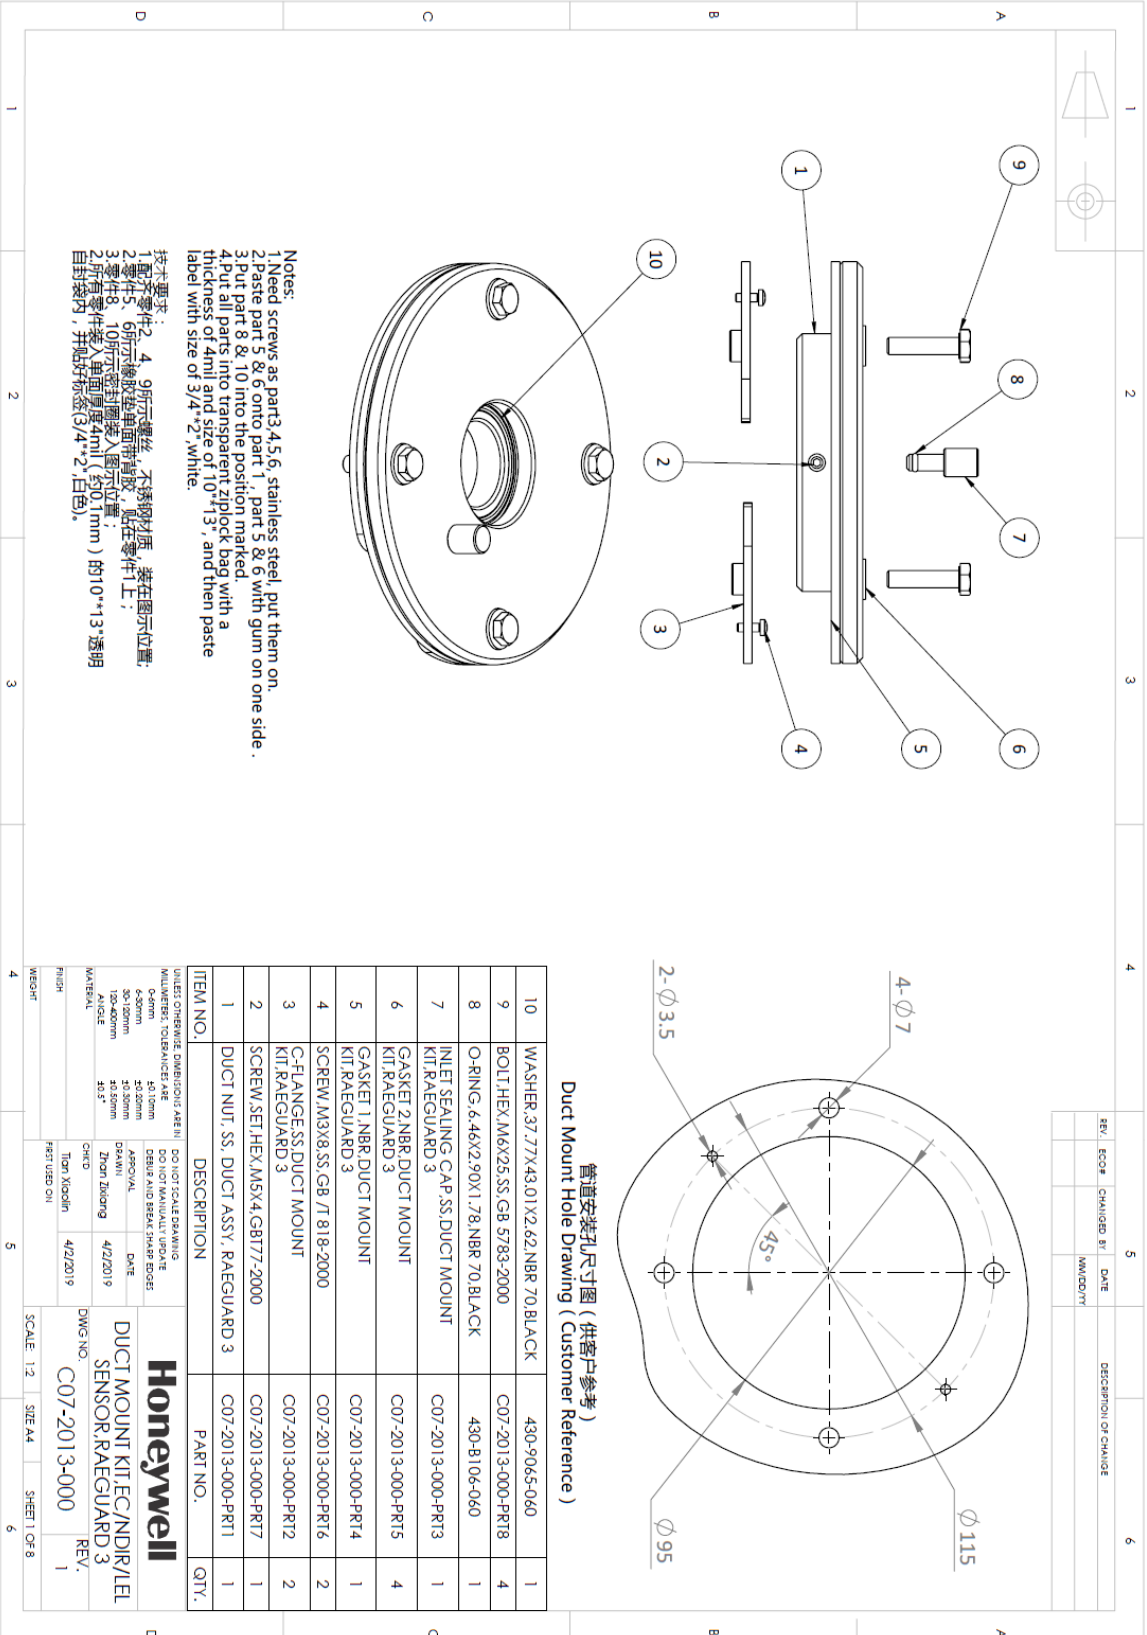

Figure 2 (2)
2. 依据 RAEGuard 3 管道安装图（图 2），需要提前使用者为安装探测器提供合适的平面法兰；
2. In accordance with the machinal drawing (**Figure 2**) of Duct Mounted Kit, pre-collaborate with users carefully for how to reserve the suitable position.